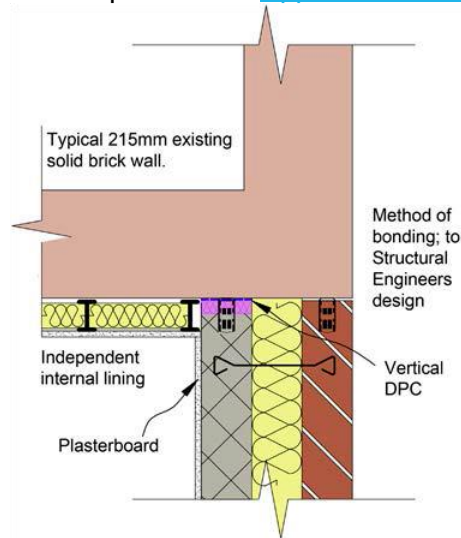
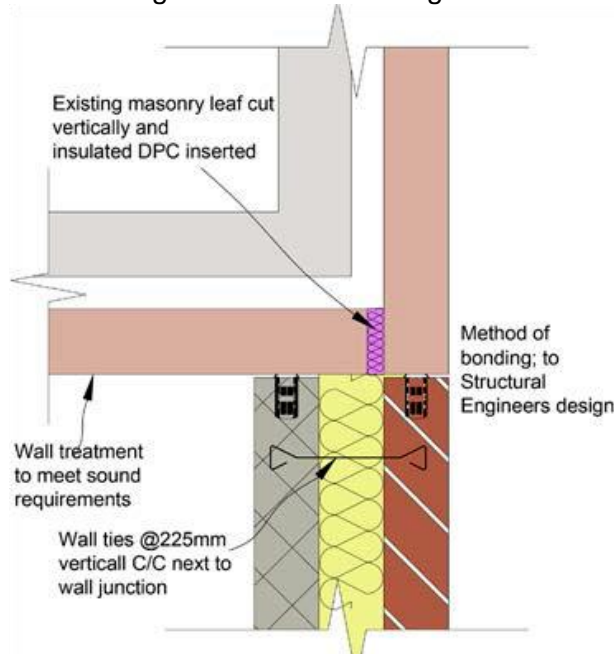

Figure 1: bonding new walls to existing solid masonry walls
Figure 2: bonding new walls to existing cavity masonry walls
4. The junction of the new walls to the existing walls should ensure that dampness cannot track back into the new home or the existing home. (See suggested solutions below in Fig 1 and Fig 2.)